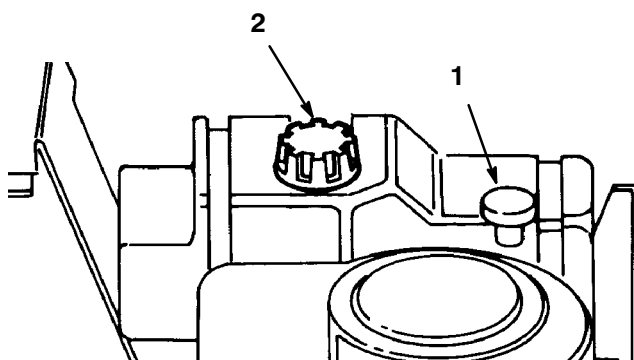

Figure 16
2. Clean around the oil dipstick (Fig. 16) so dirt cannot fall into the filler hole and damage the engine.
3. Unscrew the oil dipstick and wipe the metal end clean (Fig. 16).
4. Unscrew the dipstick and slowly pour 80% of the specified amount of oil into the filler hole (Fig. 16). Check the oil level; refer to Checking the Oil Level, page 23, steps 3-4.